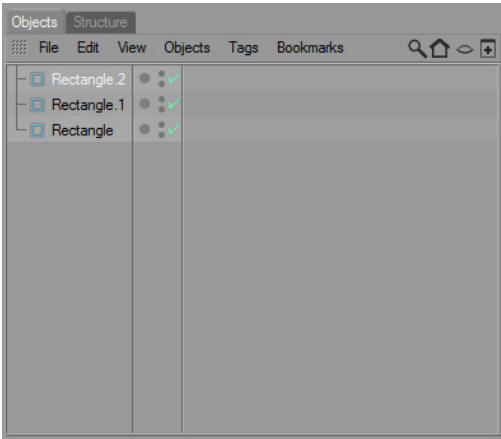

Figure 2-35 *Rectangle.2* added to the Object Manager
8. Make sure that *Rectangle.1* is selected in the Object Manager. Press and hold the left mouse button and the CTRL key and then drag and drop the cursor in the empty space; a copy of the *Rectangle.1* is created and added to the Object Manager with the name *Rectangle.2*, as shown in Figure 2-35.